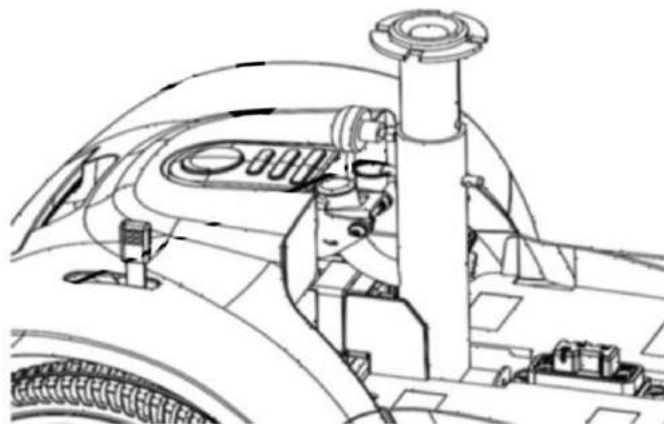

Fig 6.4.1
- Adjust seat post to your require height by using the seat post pin provided. Then securely tighten seat post retaining screw. (See Fig 6.4.1)